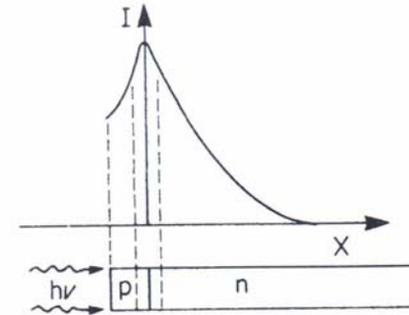

Figure 8.22. Schematic representation of the contribution of electrons and holes to the photocurrent (I) with respect to the distance x from the p - n junction.
- The closer a carrier was created to the p - n boundary, the larger is its change of contributing to the current. (the electron - hole created some distance away from the depleted region, do not separated by junction field and eventually recombine; do not contribute to the electric current) : see Fig 8.22